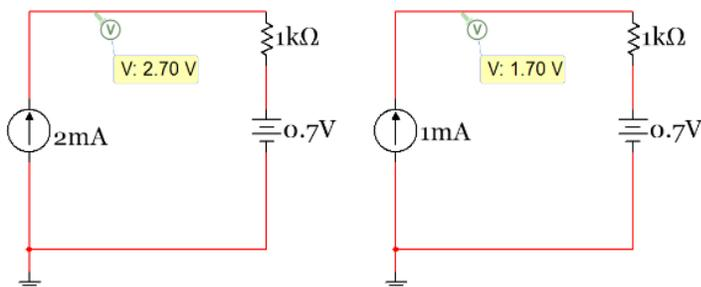
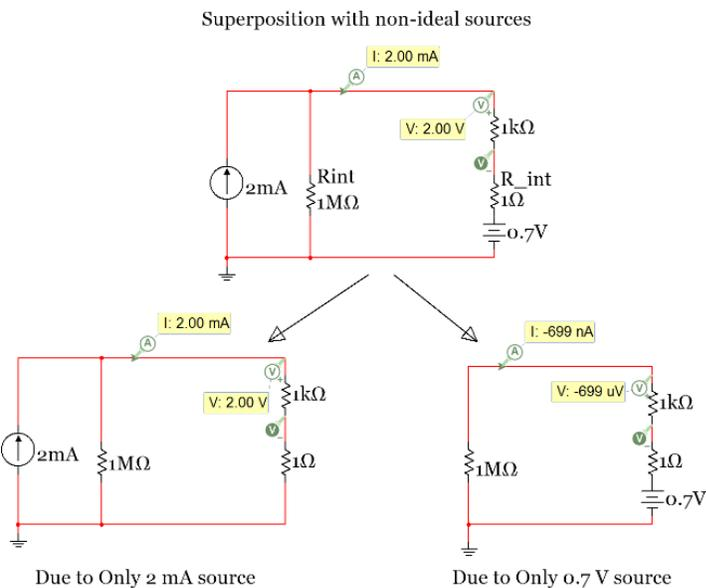
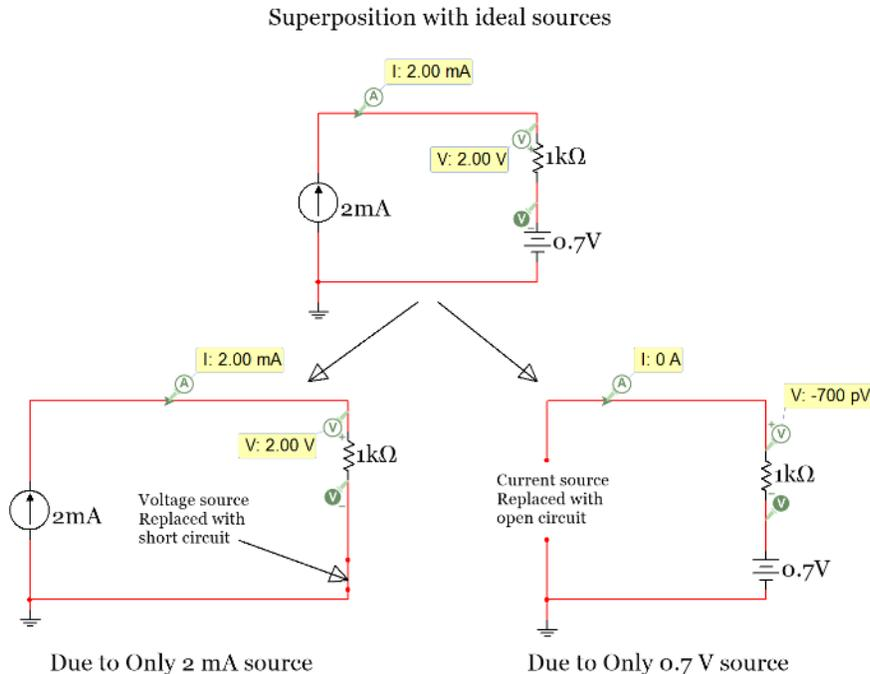

Figure 2.32: Example of a linear system - Circuit with a resistor and a diode that is replaced with a battery.
Figure 2.33: Example of Superposition with Non-Ideal Sources - The 0.7V battery has a negligible effect
Figure 2.34: Example of Superposition with Ideal Sources
using Newton's 2nd Law all of the forces acting on the mechanical body result in the body having a net acceleration. If the system is linear then superposition can be used where the acceleration due to each individual force is calculated one at a time. All of the individual accelerations could then be added together and the resulting total acceleration that results would be the same as solving the system all in one step with all forces in the same calculation. This same process can also be used for independent sources in electrical linear systems. The only thing that complicates the superposition procedure for linear circuits is what to do with the "other sources" that are physically connected to the circuit as you solve the circuit one source at a time. If the sources are **not ideal**, then the "other sources" are replaced with their internal resistance. Recall in Figure 1.3 of Module 1 that a non-ideal voltage source is modeled as a battery in series with a small resistor. This small resistor (called R_{int}) is the internal resistance. A non-ideal current source is modeled as a large resistor in parallel with the current source. If the sources of the circuit in Figure 2.32 are replaced with a non-ideal current source with internal resistance of $1\text{ M}\Omega$ for the current source and $1\ \Omega$ in series to transform the ideal voltage source to a non-ideal voltage source, the results are shown in the top circuit in Figure 2.33. The voltage across the $1\text{ k}\Omega$ resistor is approximately 2 V , which is the same value as obtained in the circuit in Figure 2.32 with ideal sources. The value is approximately the same because the values of R_{int} in this case for the current and voltage sources have minimal effect on the circuit.
For sub-problem 1 (on the left side of Figure 2.33) the voltage source must be "zeroed out" and for sub-problem 2 (on the right side of Figure 2.33) the current source must be "zeroed out" so that only the internal resistance remains for both. To zero out an independent source the following is done:
The **magnitude** of the voltage and current of the 1 kΩ resistor in the bottom-left circuit in Figure 2.33 due to only the 2 mA current source (sub-problem 1) can be calculated as follows:
- $I_{1k\Omega_1} = \mathbf{2\text{ mA}}$ because the source forces 2mA through the loop (verified by Multisim in Figure 2.33).
- $V_{1k\Omega_1} = I_{1k\Omega_1} \cdot 1\text{ k}\Omega = 2\text{ mA} \cdot 1\text{ k}\Omega = \mathbf{2\text{ V}}$ (as verified by Multisim in Figure 2.33).
In this example the 0.7 V has very little effect on current or voltage through the 1 kΩ resistor since there is a 1 MΩ resistance in the circuit. The **magnitude** of the voltage and current of the 1 kΩ resistor in the bottom-right circuit in Figure 2.33 Due to only the 0.7 V voltage source (sub-problem 2) can be calculated as follows:
- $I_{1k\Omega_2} = (0.7\text{ V}) / (1\text{ M}\Omega + 1\text{ k}\Omega + 1\text{ }\Omega) = 6.99\text{E-}7\text{ A}$ or **699 nA** (as verified by Multisim in Figure 2.33).
- $V_{1k\Omega_2} = I_{1k\Omega_2} \cdot 1\text{ k}\Omega = 699\text{ nA} \cdot 1\text{ k}\Omega = 6.99\text{ E-}4$ or **699 μV** (as verified by Multisim in Figure 2.33).
- $I_{1k\Omega} = I_{1k\Omega_1} + I_{1k\Omega_2} = 2\text{ mA} - 699\text{ nA} = \mathbf{1.9993\text{ mA}}$ (rounded to 2 mA in Multisim, top circuit in Fig 2.33)
- $V_{1k\Omega} = V_{1k\Omega_1} + V_{1k\Omega_2} = 2\text{ V} - 699\text{ }\mu\text{V} = \mathbf{1.9993\text{ V}}$ (rounded to 2 V in Multisim, top circuit in Fig 2.33)
In this course we will only deal with ideal independent sources so the internal resistance doesn't have to be included. For ideal voltage sources the internal resistance is zero (replace R_{int} in Figure 2.33 with a short circuit) and for ideal current sources the internal resistance is infinity (replace R_{int} in Figure 2.33 with an open circuit). If the sources in the circuit in Figure 2.33 are **ideal** then Figure 2.34 shows how the circuit would look and how the circuits for the 2 sub-problems would look.
- $I_{1k\Omega} = I_{1k\Omega_1} + I_{1k\Omega_2} = 2 \text{ mA} - 0 \text{ A} = \mathbf{2.0 \text{ mA}}$ (Matches top circuit in Fig 2.34)
- $V_{1k\Omega} = V_{1k\Omega_1} + V_{1k\Omega_2} = 2 \text{ V} - 0 \text{ V} = \mathbf{2.0 \text{ V}}$ (Matches top circuit in Fig 2.34)